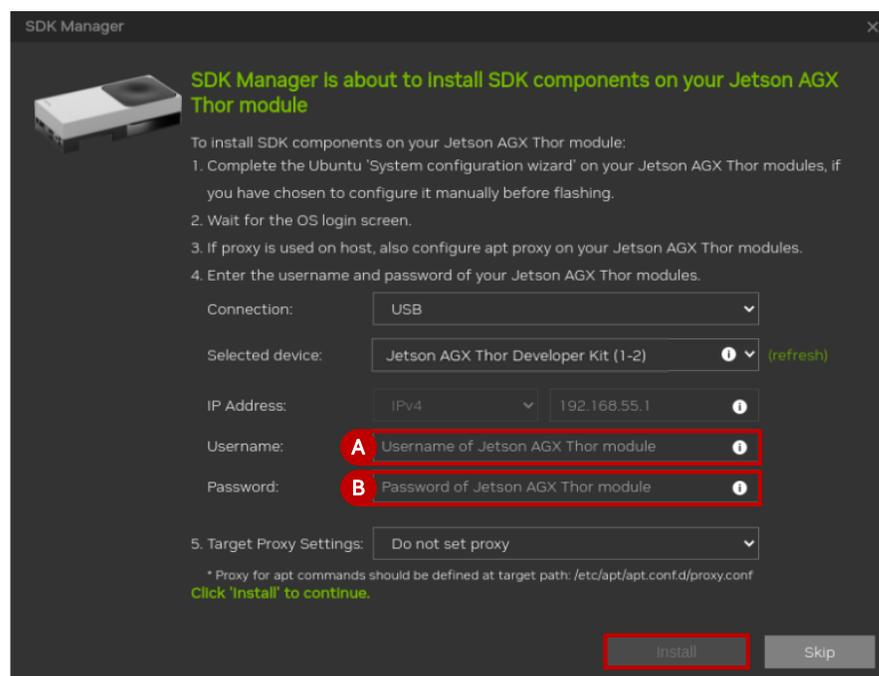

Figure 6.22. Post-flash Installation Dialog
14. Allow the SDK Manager to detect the device and begin the initial setup process. When the AGX Thor reaches the operating system login screen, enter the created **username** at (letter **A**) and **password** (letter **B**) as shown in Figure 6.22. Click **Install** to start installing the SDK component.